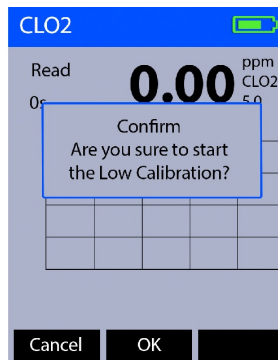

Figure 11.
5. Use « () and ≈ () to adjust the concentration value to match the known concentration of the solution or to zero if using deionized (DI) water.
6. Press **Calib** () to continue with the entered concentration value. The display updates as shown in Figure 11.